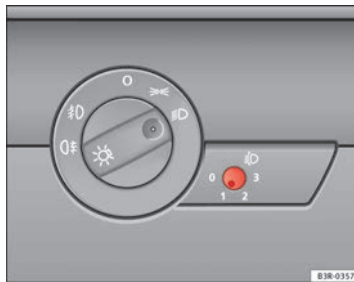

Fig. 88 Headlight range control
- Briefly press the knob  → Fig. 88 to release it from its set position.